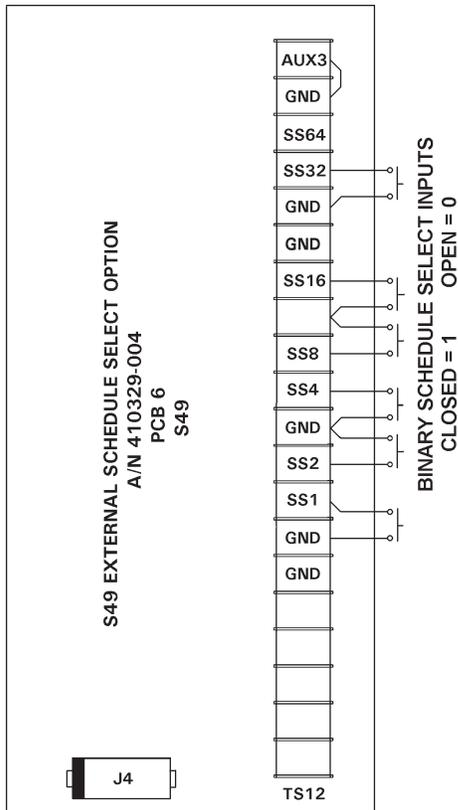

Figure 4-1. Switch closure connections
1. Select one of 50 schedules by an external device or operator acting on TS12-SS1 through TS12-SS32. See Switch Closure Connections diagram (Figure 4-1) and corresponding SCHEDULE SELECT table (Table 4-1).